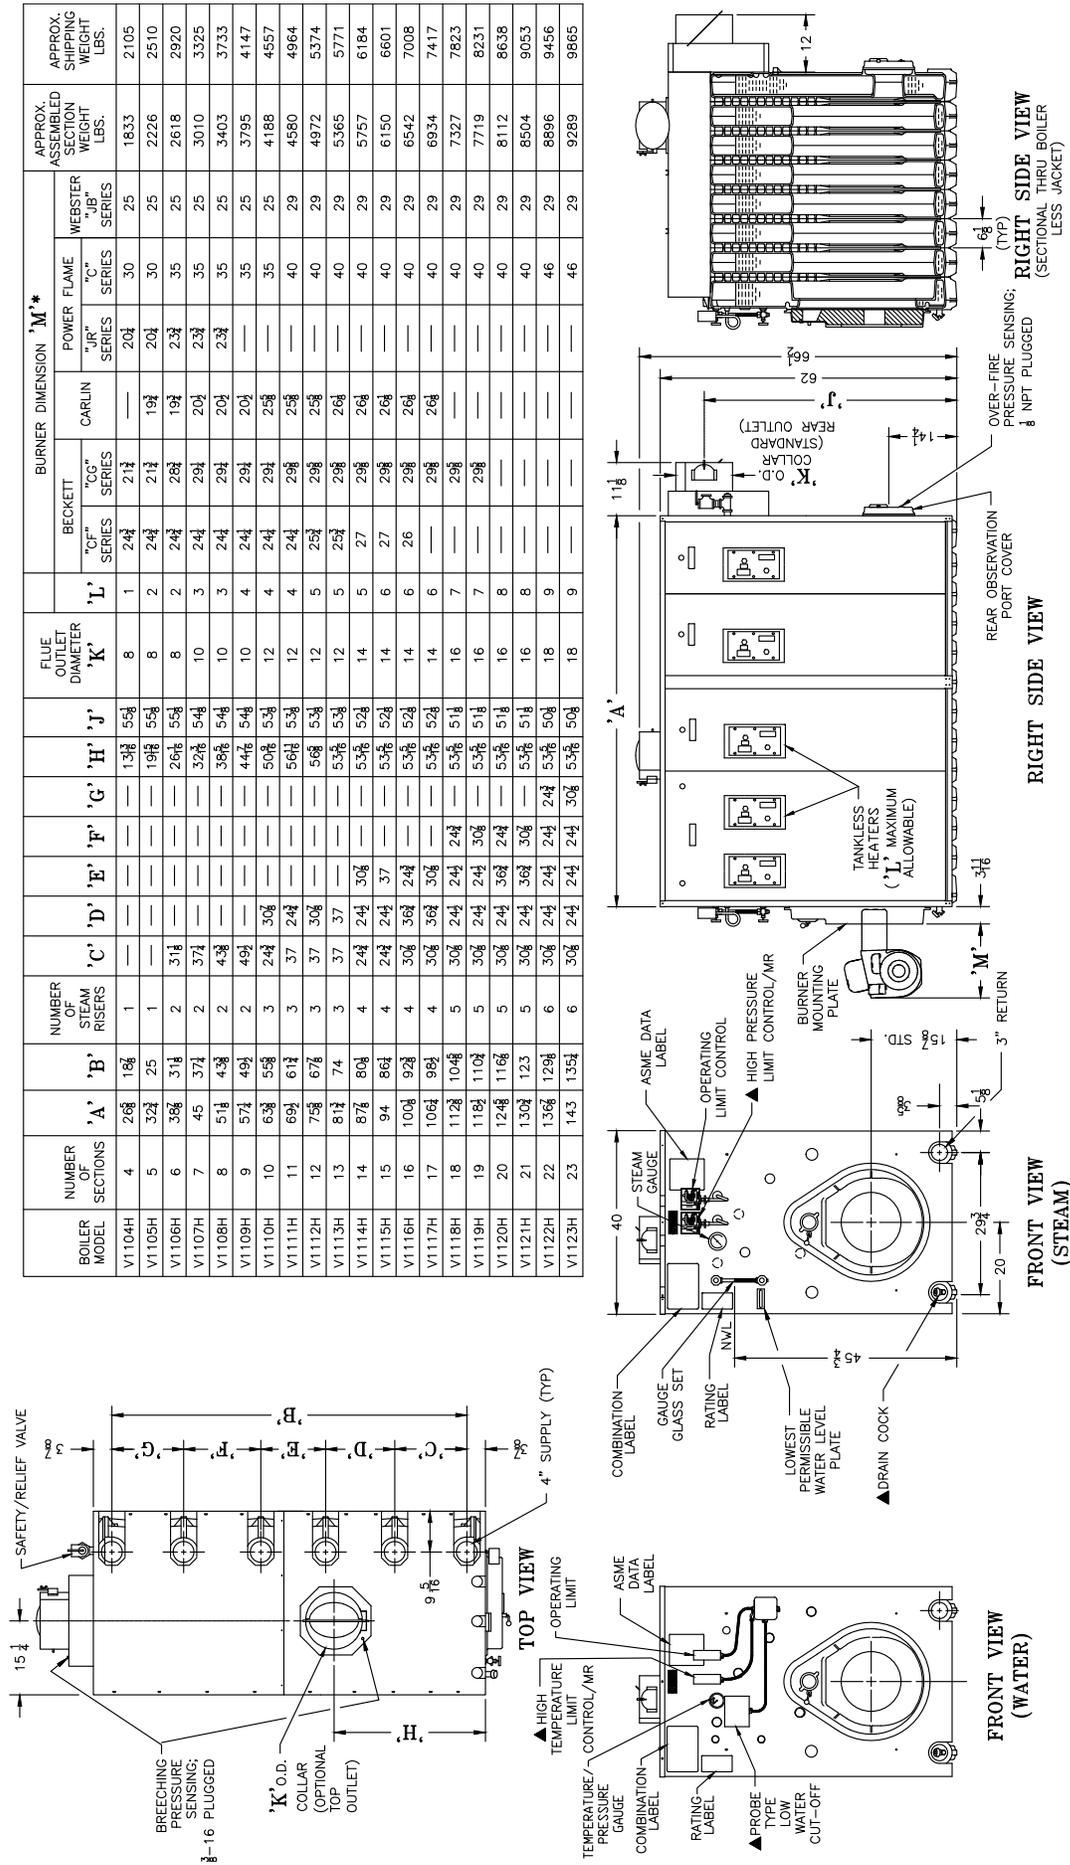
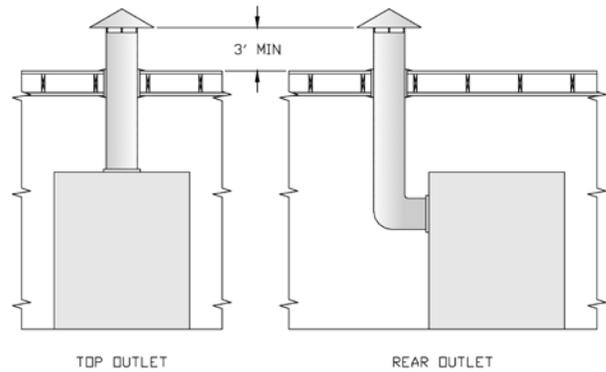

Figure 1: Dimensional Information
Figure 3a: Typical Arrangement For Stub Vent
--- Locate the unit in the boiler room so as to provide ease of venting and adequate clearance for maintenance, serviceability, and installation of piping. Refer to Figure 1 for boiler dimensional data.
The V11H Series boiler is designed for forced draft firing and may be used with a conventional natural draft stack (15' minimum height) or a stub vent, sometimes called a diesel stack (see Figure 3a). See Table I for the proper vent outlet size. For low silhouette vent terminations, see Figure 3b. Draft controls are not normally required, although they may be used on installations where a natural draft stack is used or on multiple boiler installations with a common stack. The boiler is provided with a breeching damper, which should be adjusted to maintain a positive pressure of 0.1" W.C. in the vent connector box during burner high fire operation (see breeching pressure sensing port in Figure 1).
If the venting system is designed for positive or forced draft venting, the boiler, vent connector and stack will operate under positive pressure. Gas tight vent systems designed for pressure systems must be used to prevent flue by-product leakage. The vent height is usually limited to prevent negative draft, typically three (3) feet above the roof line (see Figure 3a). The damper shall be adjusted to maintain a positive pressure of 0.1" W.C. in the vent connector box during burner high fire operation (see breeching pressure sensing port in Figure 1).